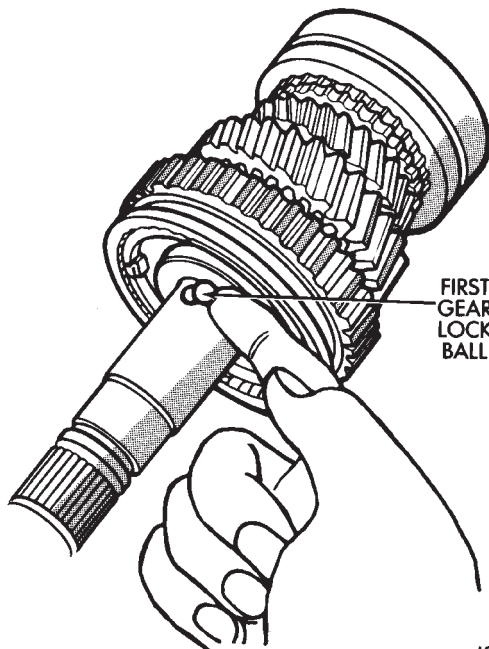

Fig. 111 Install First Gear Bearing Inner Race Lock Ball
(14) Position 1-2 synchronizer assembly onto splines of output shaft.
(15) Using Driver MD-998805, Adapter 6747-1A, and a shop press, press the 1-2 synchronizer onto the output shaft.
(16) Install first gear synchronizer ring into 1-2 synchronizer.
(17) Install first gear bearing inner race lock ball in output shaft (Fig. 111).